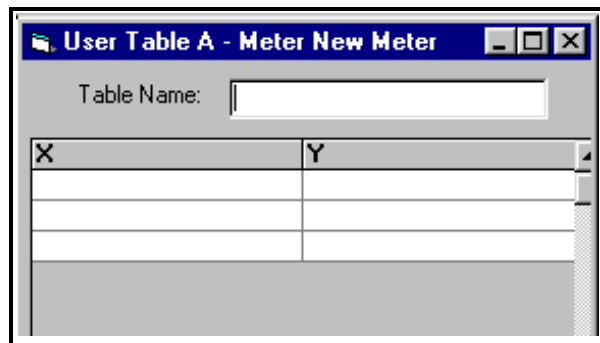

Figure 18: User Table Window
2. Click on “User Tables,” and then double-click on the desired table. The right side of the screen appears similar to Figure 18 below.